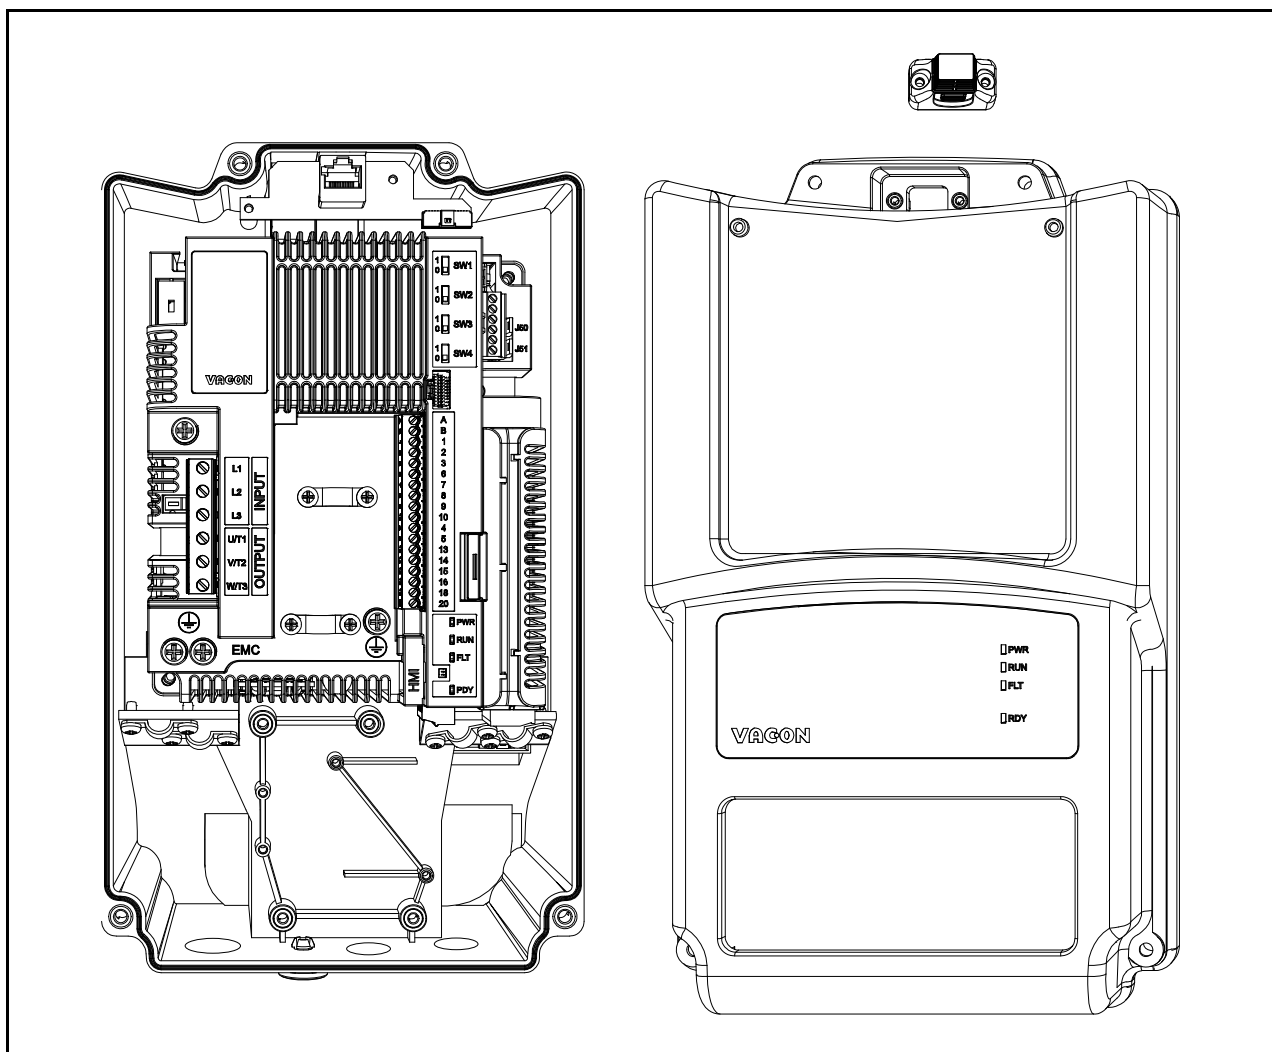

Figure 68. Cover open (MU2 3-phase example).
- Remove the HMI cap and the cover from the drive. See the Figure 68.